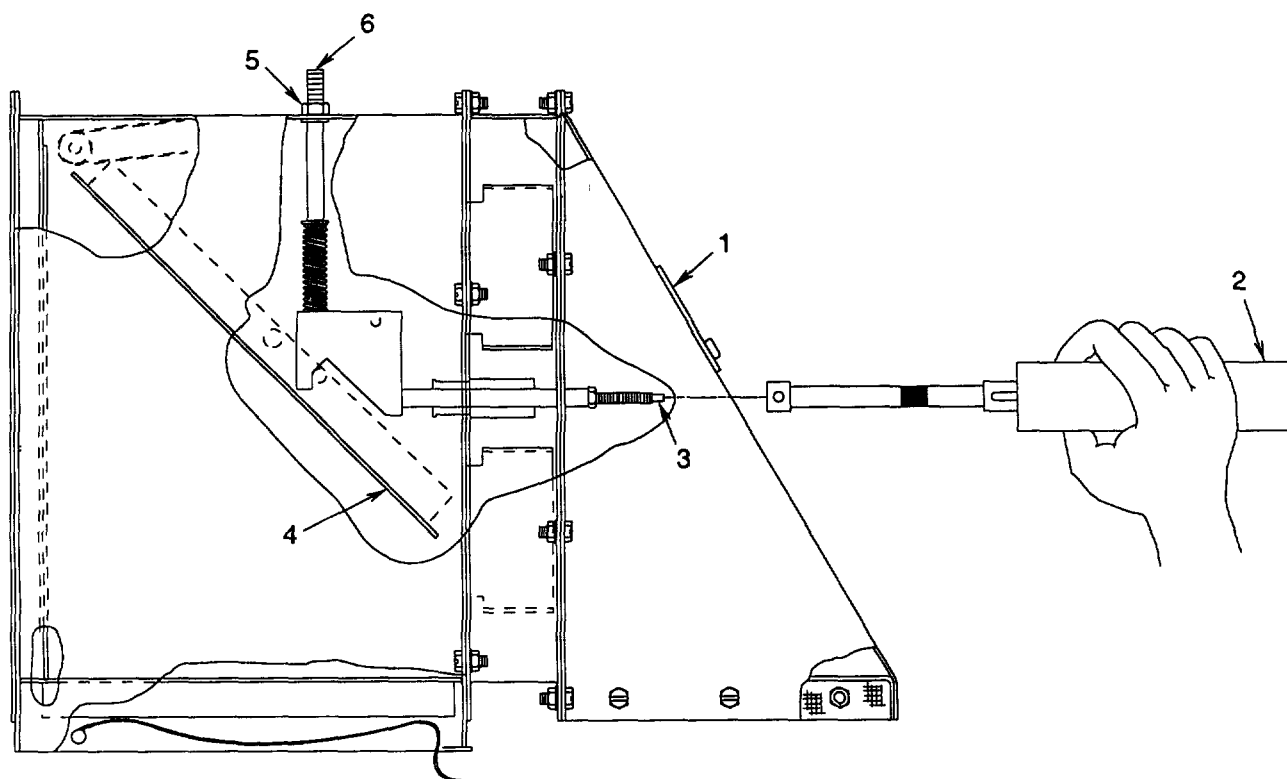

Figure 5-30. Blast Damper - Test/Adjust
(2) Blast Damper. (See figure 5-30.)